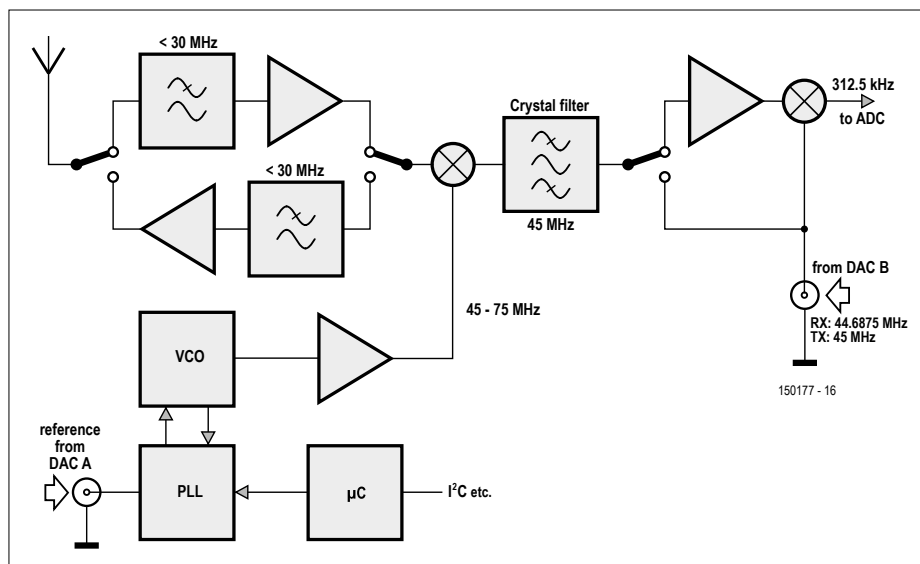

Figure 4. Block diagram for a transceiver suitable for SSB voice transmission.
local oscillator (LO) tuning in the range 45-75 MHz. This LO can be generated from a voltage controlled oscillator (VCO) that is phase-locked to a reference signal coming from one of the DAC channels. This approach fully enables SSB voice transmission. A transceiver block diagram is shown in **Figure 4**.